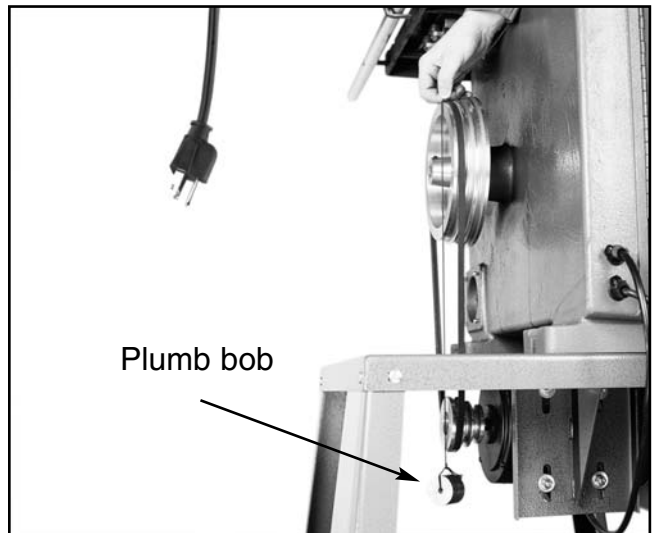

Figure 10. Aligning V-belt pulleys.
3. Check the pulley alignment with a plumb bob or straightedge. If you are using a plumb bob, the string must touch the outside flanges of each pulley evenly as shown in **Figure 10**, and the machine must be level.